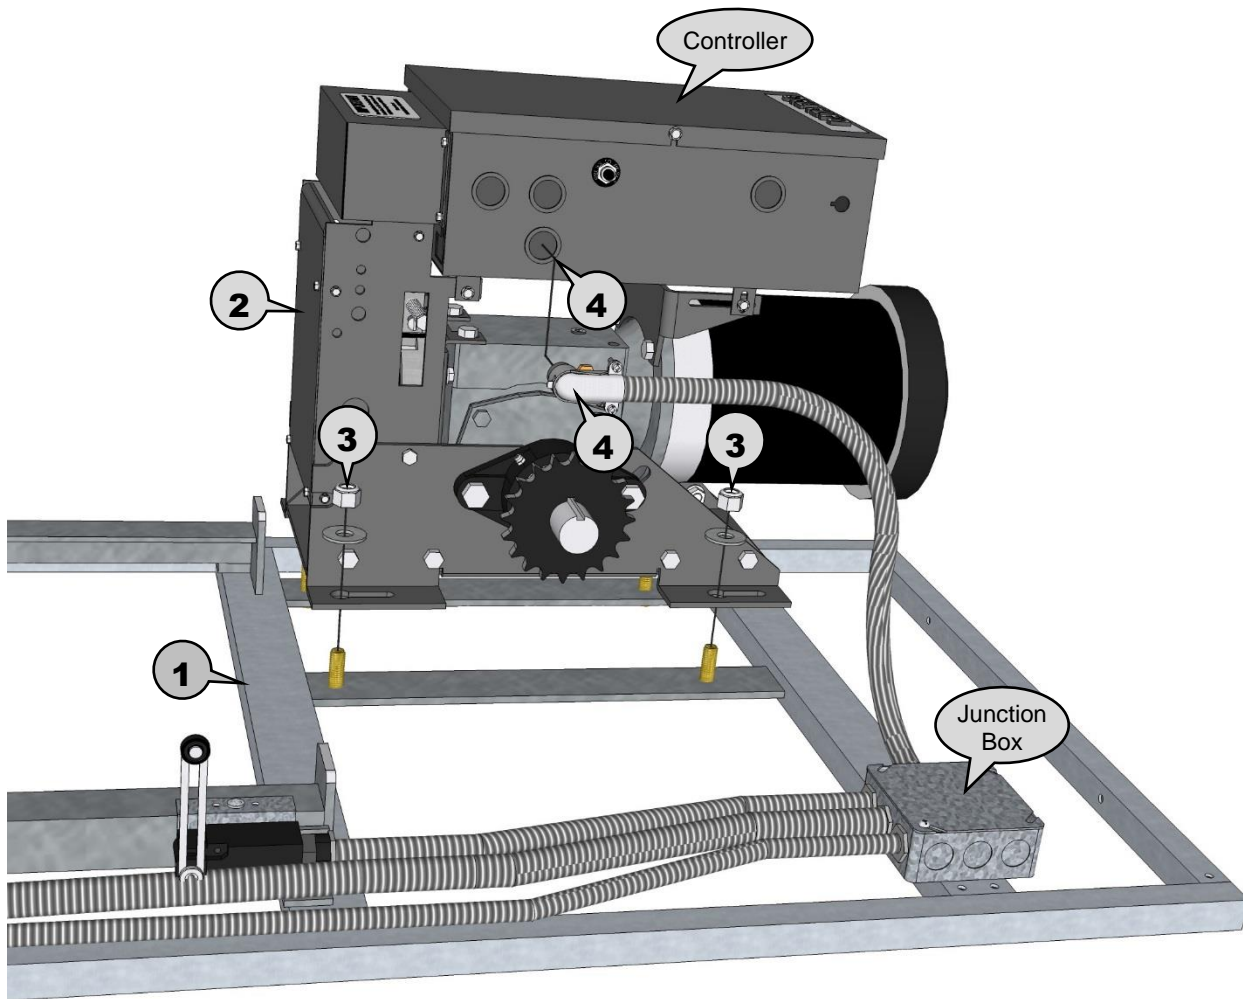

Figure 1
- 2** Remove motor from box and place it on track & rail section from Step 1. (see Figure 1)
- 3** Use four (4) washers, and nyloc nuts to securely fasten motor to track & rail section. (see Figure 1)
- 4** Use factory installed wires from junction box, on the rail next to the motor, to wire in the motor controller. (see Figure 1)